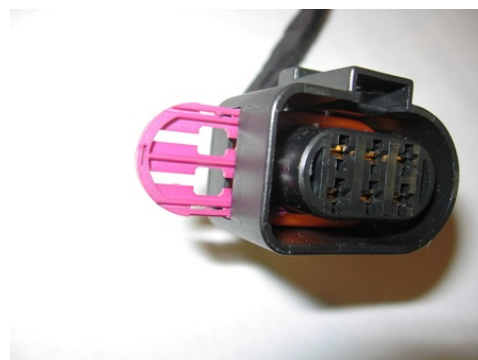

Figure 2. Secondary lock, shown partially removed from the lambda sensor connector.
- b. Remove secondary lock from connector (Figure 2).